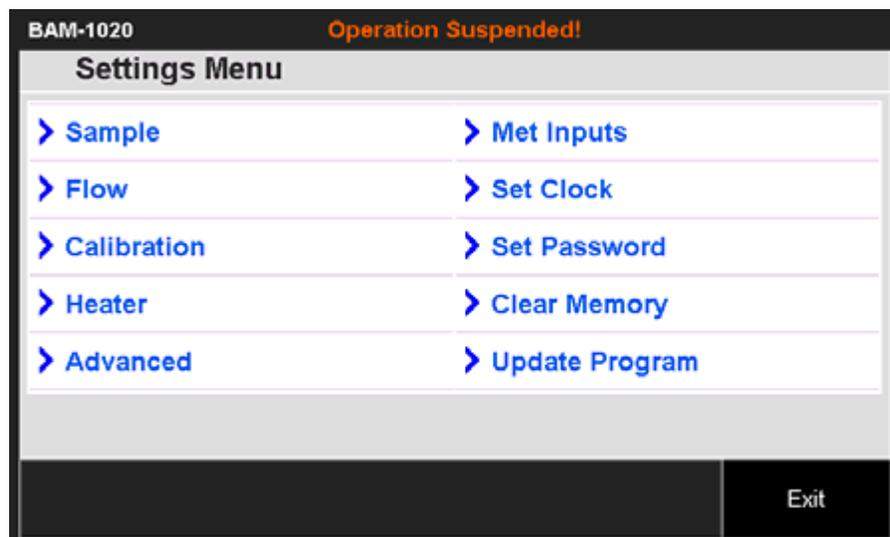

Figure AR-17. BAM 1020 Touch Screen Settings Menu
4. Request the operator to press the Setup button on the main menu and enter a password (default 1234) for display of the Settings Menu as shown in Figure AR-17.